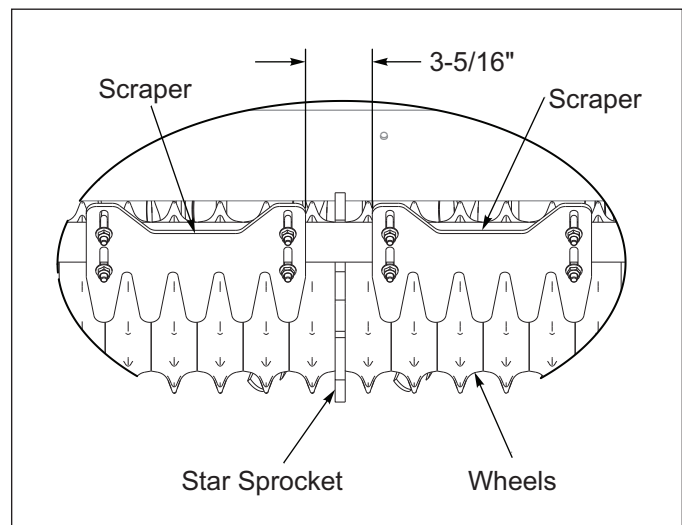

Figure 2-9: Positive Drive Roller Scraper Position
15. The Scraper Assembly needs to be adjusted to accommodate the extra Star Sprockets between the sets of wheels on the Positive Drive Roller Assembly. Starting with the left side of the Scraper Assembly, remove the 2nd Scraper, it will not be used. Adjust the next Scraper so that the space between the first and this Scraper is 3-5/16". **See Figure 2-9.** Continue to adjust the space between each Scraper to 3-5/16". Do not tighten the hardware.